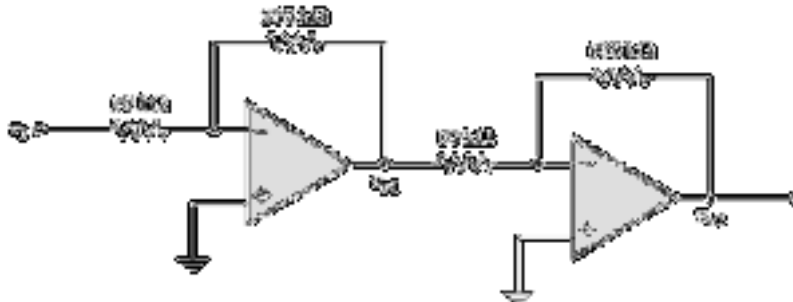

Figure 1
2. Consider the two inverting amplifiers in cascade in Figure 1. The op-amp parameters are $A_{OL} = 5 \times 10^3$, $R_i = 10\text{ k}\Omega$, and $R_o = 1\text{ k}\Omega$. Determine the actual closed-loop gains $A_{vfl} = v_{o1}/v_i$ and $A_{vf} = v_{o2}/v_i$. What is the percent error from the ideal values?